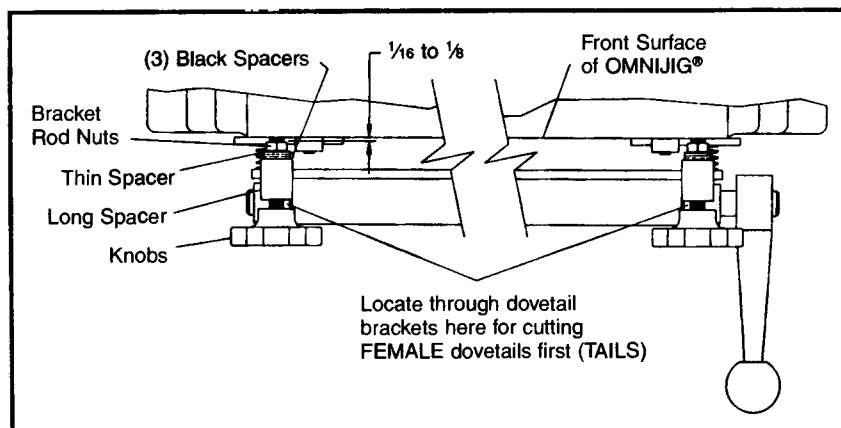

Fig. 23
2. Position thick and thin spacers on templet bracket rods as shown in Fig. 23, and adjust bracket and rod nuts 1/16" to 1/8" out from front face of jig.
2. Place Through Dovetail Templet on top of scrap piece of wood (step 1) locating brackets in space shown in Fig. 23, and tighten knobs.